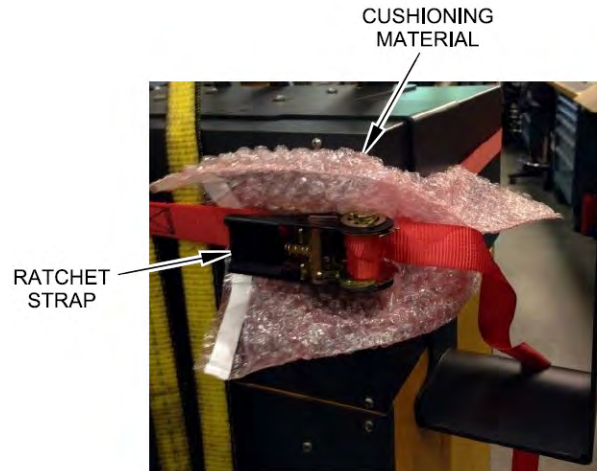

Figure 2-5 **Cushioning Material**
- h.** The ratchet strap can cause damage to the surface of the ASC. Put applicable material in all areas to prevent damage to the surface of the ASC. Refer to Figure 2-5.